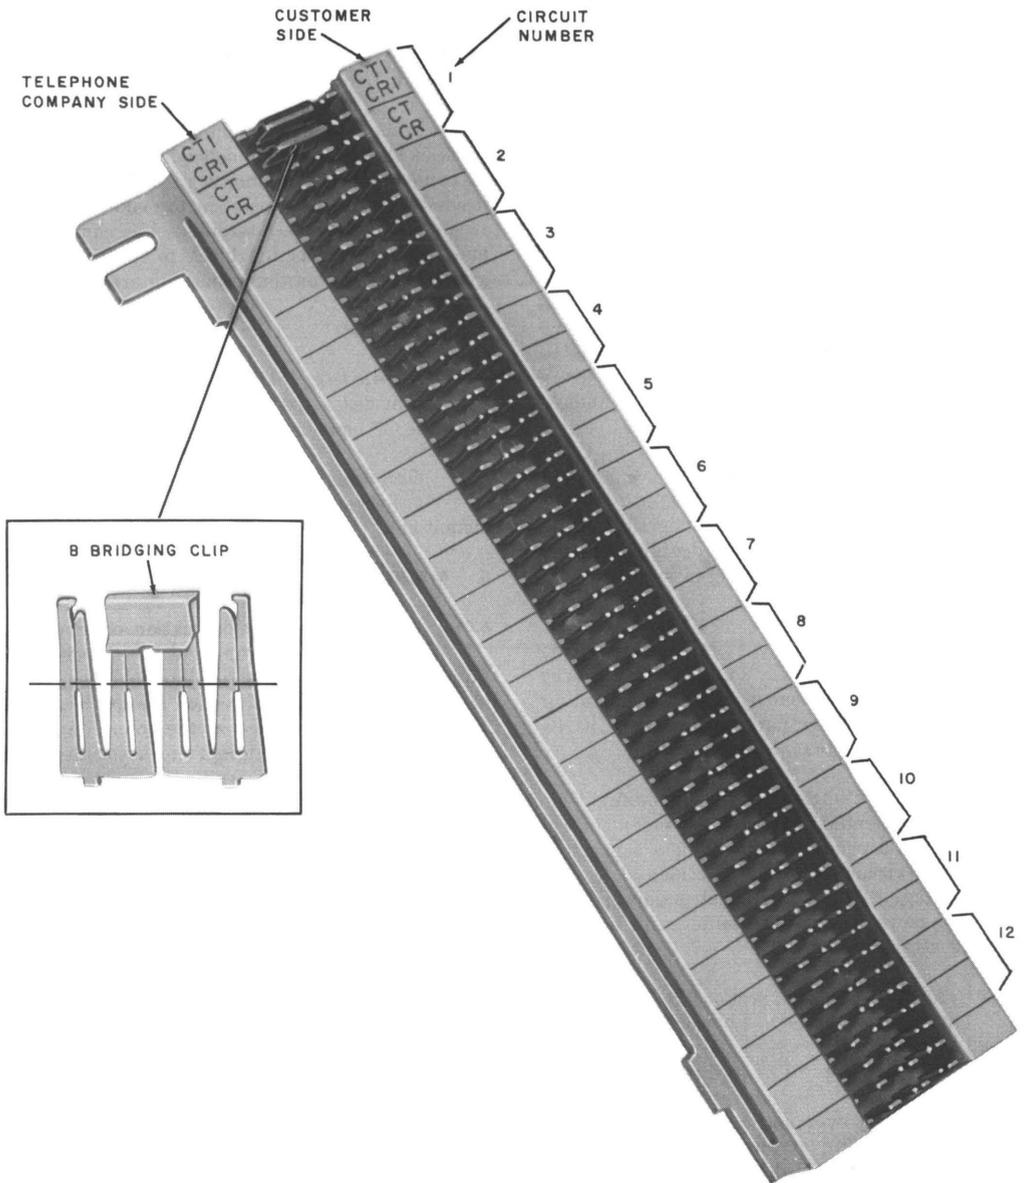

Fig. 1—Typical Interface Connecting Block
- Block, Connecting, 66M1-50 (Fig. 1).
3.02 Use the "D" inside wiring cable or equivalent to terminate the leads associated with the CP equipment on the interface connecting block. Stencil trunk number and lead designations on interface connecting block designation strip (see Fig. 1).